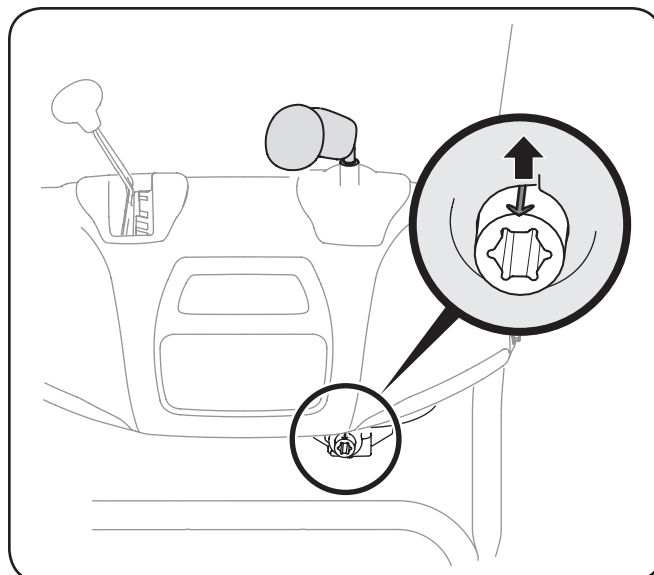

Figure 3-5
5. Rotate the joystick until the silver indicator arrow on the pinion gear below the control panel faces upward. See Fig. 3-5.